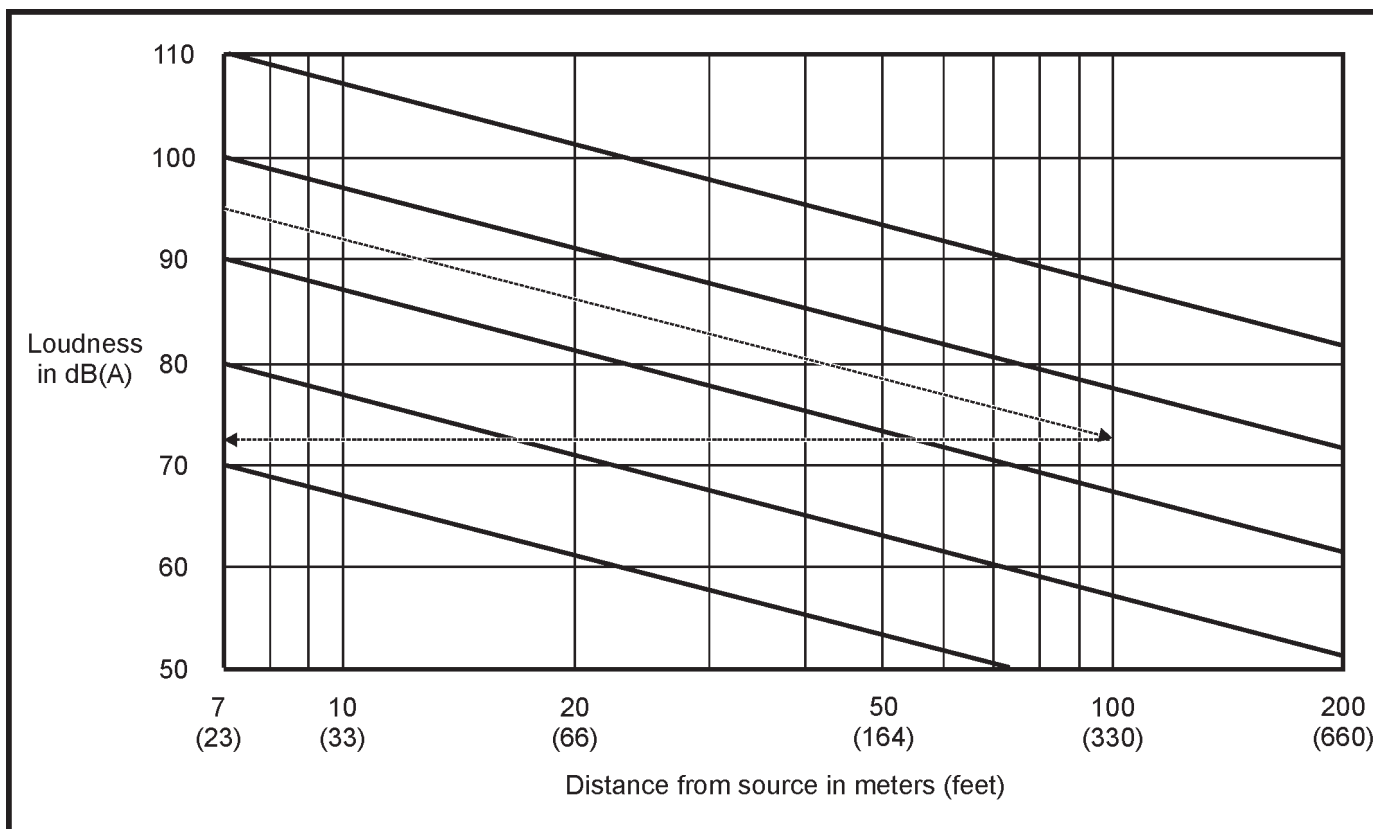

Figure 4. Distance Effects on dB(A)
Figure 4. below can be used as an alternative to the formula for estimating the sound level at various distances (such as to the property line). For instance, as shown by the dashed arrows, if the noise rating of the generator set is 95 dB(A) at 7 meters, the noise level 100 meters away will be approximately 72 dB(A).
When using Figure 4, draw a line parallel to the slanted lines from the known dB(A) value on the vertical scale line to the vertical line for the specified distance. Then draw a horizontal line back to the vertical scale line and read the new dB(A) value.